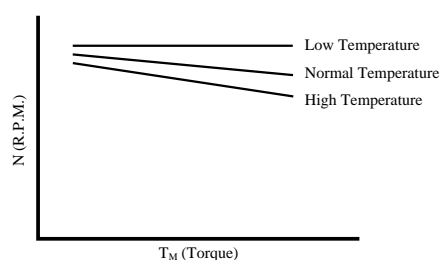
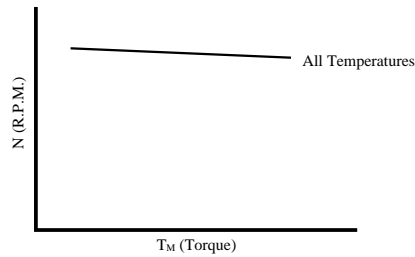

Fig. 2  $r_1$  Temperature Characteristics <  $R_a$  Temperature Characteristics
Fig. 3.  $r_1$  Temperature Characteristics =  $R_a$  Temperature Characteristics
$R_a$  is the copper coiled resistor of the motor and has the temperature characteristics of + 3,900 r.p.m./°C. Therefore, it is necessary to set the value of  $r_1$  so that the relationship in the expression (7) will be satisfied at the minimum working temperature. The diffusion resistance  $r_3 / r_2$  in the IC has the flat temperature characteristics, and if the temperature characteristics of  $r_1$  is adjusted to that of  $R_a$ , + 3900 r.p.m./°C, the value of the second term ( $r_1 r_2 / r_3 - R_a$ ) of the expressions (4) and (5) shows the flat temperature characteristics and the torque characteristics of the motor speed becomes constant without depending on a temperature. Fig. 2 and Fig. 3 show this relationship.